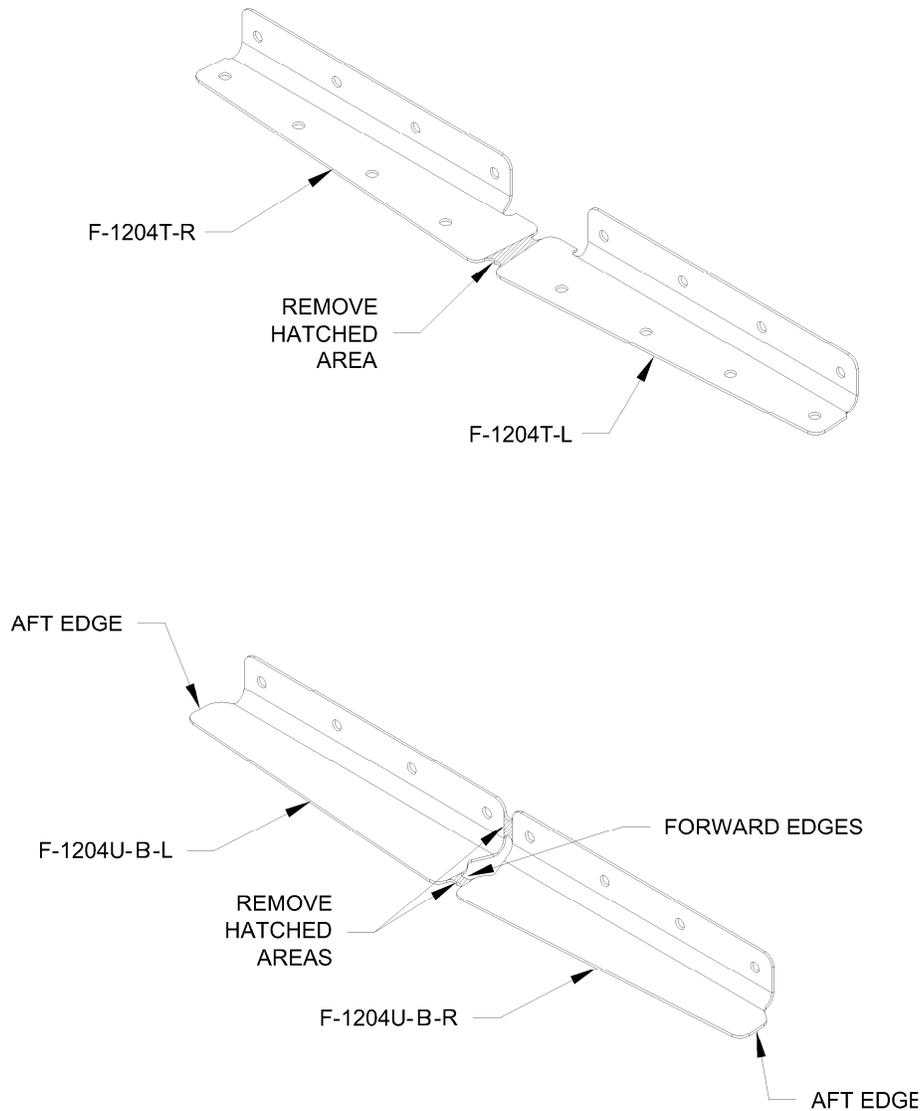

FIGURE 12: SKIN ATTACH FLANGES
Step 23: Separate the F-1204U-B L & R and F-1204T-2 L & R from each other by cutting as shown in Fig. 12
Step 24: Bend a slight upward angle on the flange extensions on the bottom flange forward and aft edges of the F-1204U-B Angles. A pair of pliers with tape applied to pad the jaws can be used. See Figure 12.